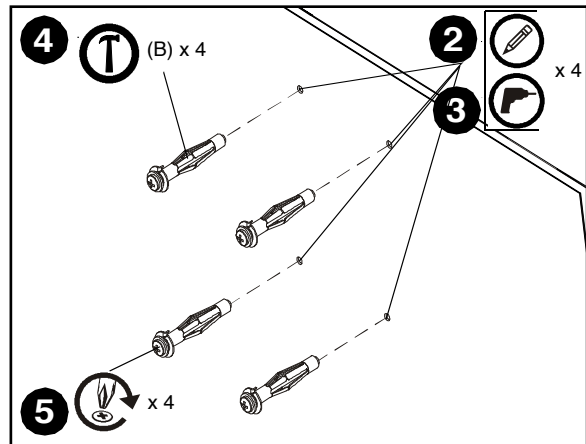
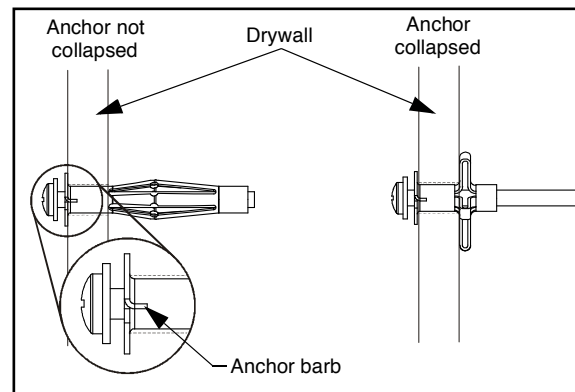

Figure 2
Figure 3
2. Level PBM-WMS assembly (A) at desired height and, using it as a template, mark the location of the four anchor holes (one in each corner slot).
3. Drill 3/8" anchor holes. Ensure holes are straight and completely through drywall. (See Figure 2)
4. Gently tap anchor (B) into anchor hole. Anchor barbs should be fully engaged in drywall (See Figure 3).
5. Using Phillips screwdriver, tighten anchor screw until anchor has fully collapsed against back side of drywall. (See Figure 2) and (See Figure 3)